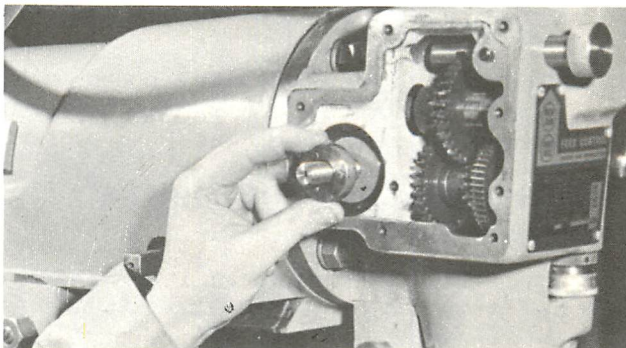
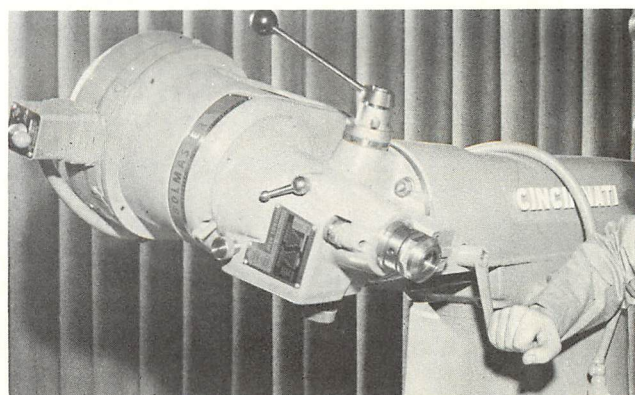

FIGURE 15C
FIGURE 16B
4. Drain oil from spindle housing by removing plug (124B) and rotating spindle housing (151B) to left. [See Figure 16B.] Unscrew hand clutch knob (175B, page 34) and remove cover plate (123B, page 32). Loosen lock screw (179B, page 34), unscrew clutch adjusting collar (178B) and remove male friction clutch (181B) [See Figure 15C], key (184B) and spiral gear (182B). Loosen clamp screw (205B).
1. Turn spindle housing 90° to left and remove plug (124B) to drain oil from housing. [See Figure 16B.] Return housing to upright position, unscrew hand clutch knob (175B, page 34) and remove cover plate (123B, page 32).
Loosen set screw (179B, page 34), tap collar to loosen shoe under screw, and remove clutch adjusting collar (178B). Slip off male friction clutch (181B), remove key (184B) and spiral gear (182B) from pinion shaft. [See Figure 15C.]